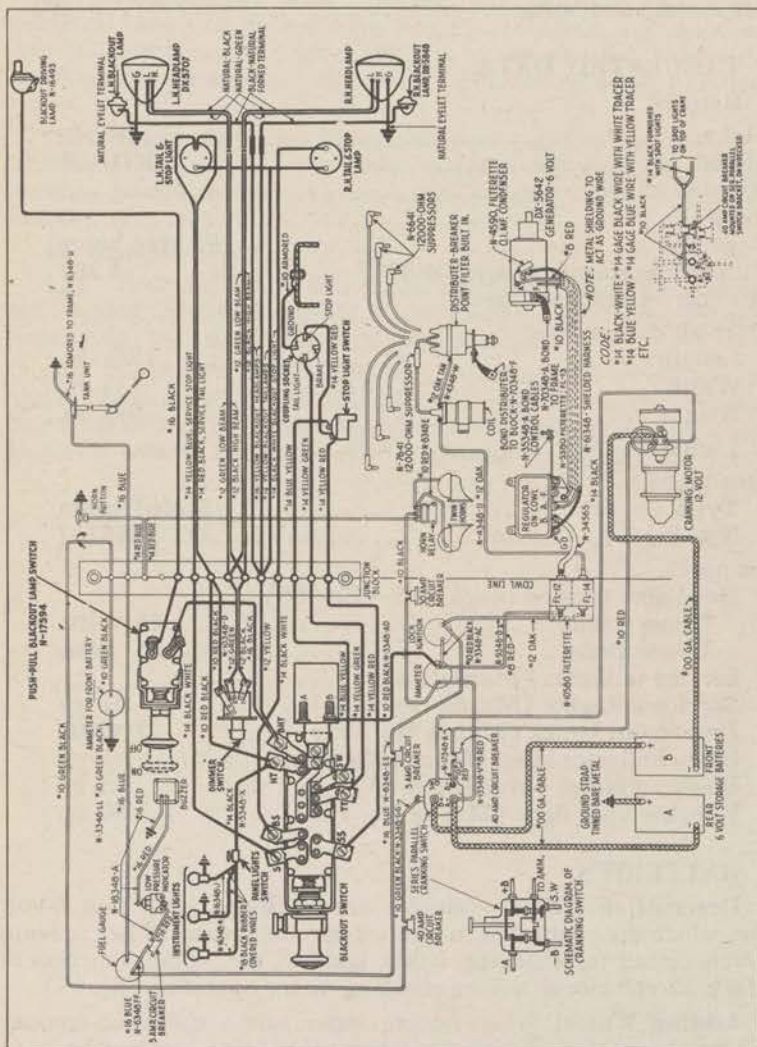

Figure 85—Wiring Diagram—Dark Lines Indicate Lighting System
a. Description. These vehicles are equipped with two 6-volt batteries which are connected in a series parallel circuit. They operate in a 6-volt circuit for charging, lights, ignition, etc. They function in series for a 12-volt circuit during cranking motor operation (fig. 85).
(3) **CONNECT BATTERY CABLES.** Connect the battery cables to the battery terminals and tighten the clamping screws (fig. 85).
(b) *Connect Headlight Wires.* Attach the headlight ground wire to the fender bracket with the nut and lock washer which were removed. Then connect the front headlight wires according to the color scheme shown in the wiring diagram (fig. 85). Slide the loom up over the connection and tape the loom at each end.
(b) **Connect Wires.** Connect blackout driving light wires and slide the loom up to cover the connection. Tape both ends of the loom (fig. 85).